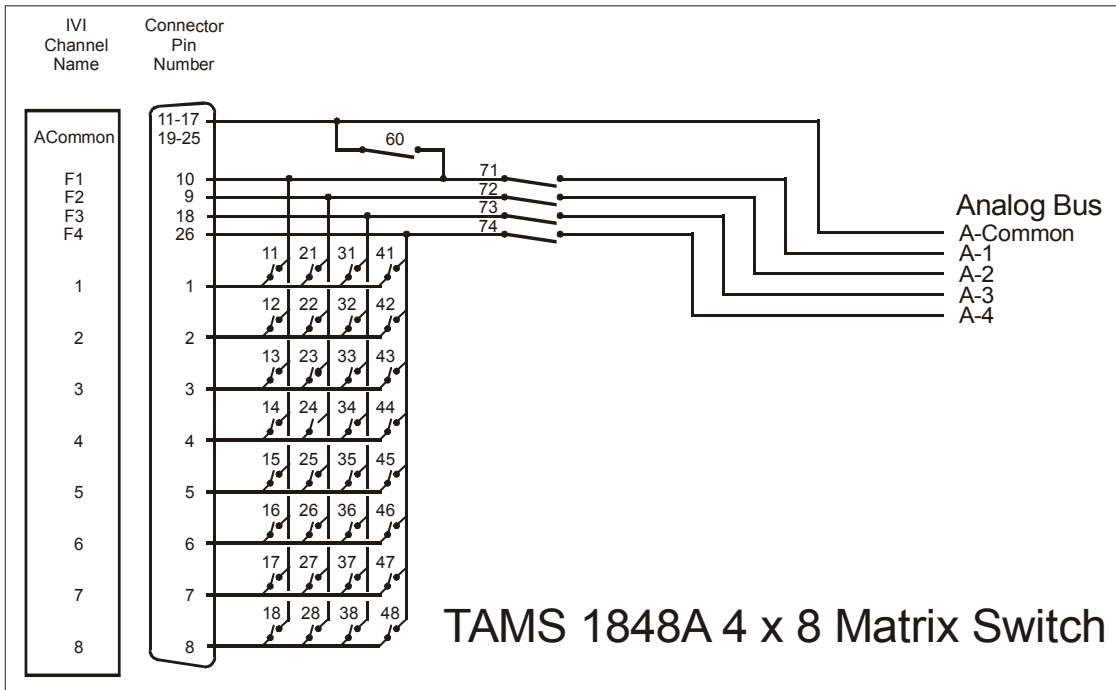

Figure 1 -- TAMS 1848A 4 x 8 Matrix Switch
The TAMS 1848A is a 4 by 8 matrix switch. See Figure 1.
The 4 x 8 matrix allows connection of any row (1 through 8) with any column (1 through 4). The matrix consists of 32 SPST relays (labeled 11 through 18, 21 through 28, 31 through 38, and 41 through 48 in figure 1) forming a 4 by 8 matrix switch, where any of the inputs 1 through 8 can be connected with any of the four “Analog Bus” lines. Five additional relays allow connect/disconnect of the matrix from the Analog Bus, as well as grounding selected terminals to the Analog Common to enable single ended measurements. So, for example, terminal 1 can be connected to Analog Bus terminals A-1, A-2, A-3, or A-4 via a “CLOSE” command.
Referring to figure 1, the rows of the matrix are identified as 1 through 8. The columns are identified as 1 through 4. Each relay is identified by its column and row. For example, relay 23 connects column 2 with row 3.
-- see figure 1
The channels for the IVI driver and NI Switch Manager are shown in Figure 1.
The channels for the IVI driver and NI Switch Manager are shown in Figure 1. This is the list of all IVI channels: